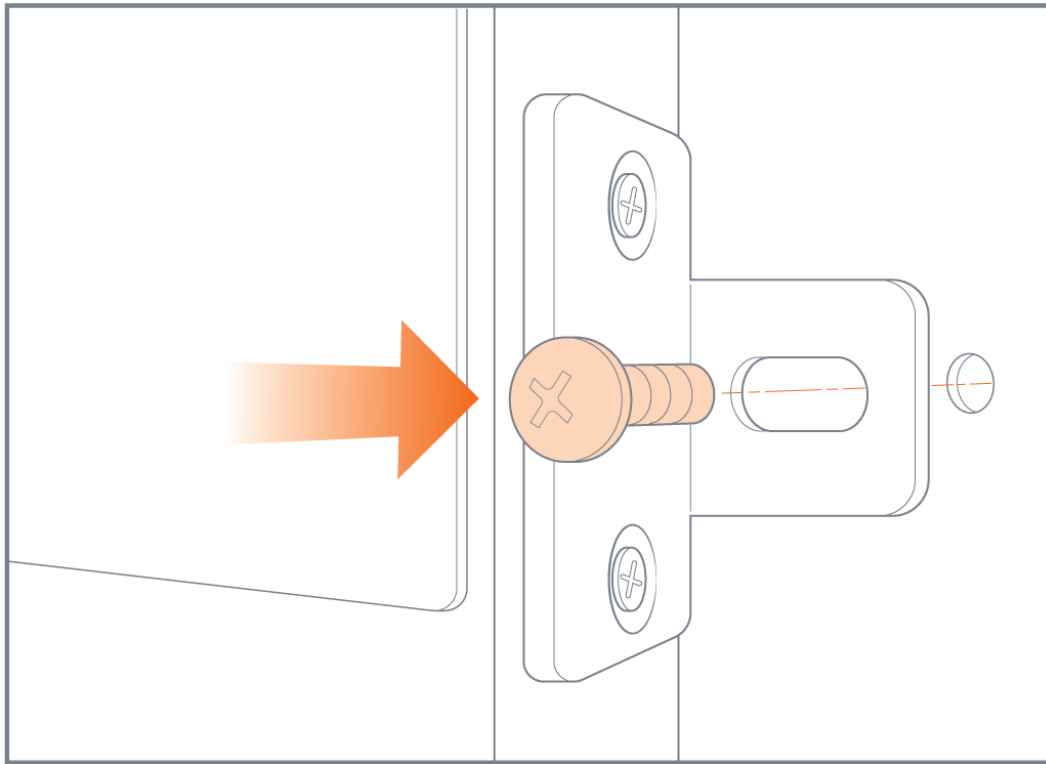

Figure 4 Locking Rack Ear Attached to Rack
9. Insert the screw through the locking rack ear on the chassis to secure the node in place and keep it from sliding out of the slide rail. Tighten the screw. Refer to Figure 4 Locking Rack Ear Attached to Rack.